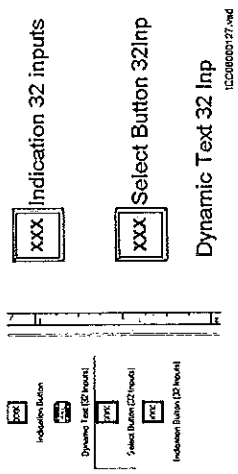

Figure 55: GDE: Dynamic Text symbols
- *Dynamic Text* or *Indication* button is used when a position shall be monitored on single line diagram, **Figure 55**